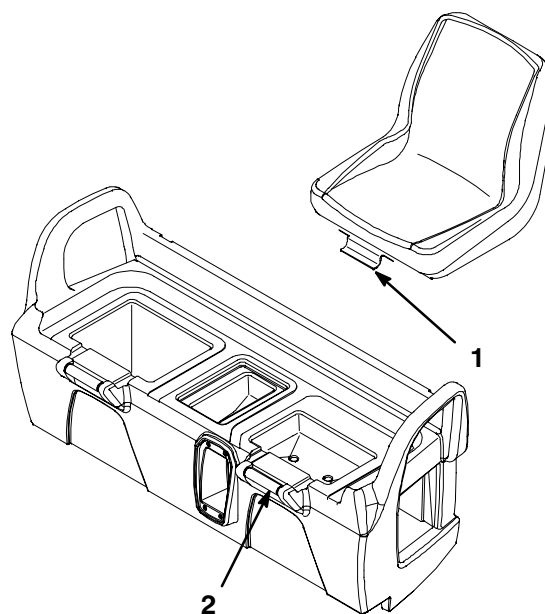

Figure 6
- Insert the seat bracket into the seat base opening and pivot the seat downward (Fig. 6).